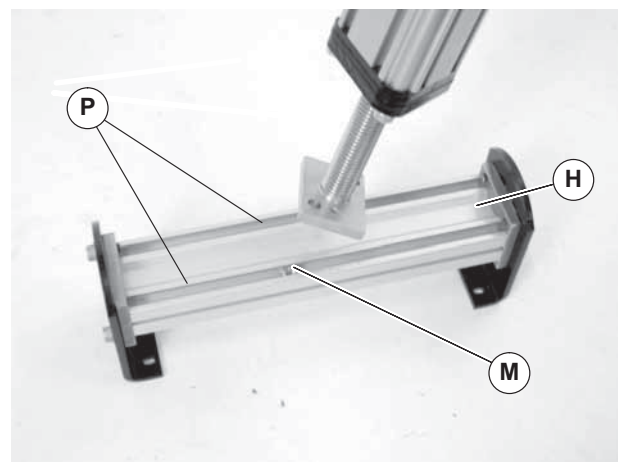

Figure 7
- Position the conveyor mounting bracket and crossmember tube assembly (Figure 7, item H) so there is access to the underside t-slots (P) and hex nuts (M).